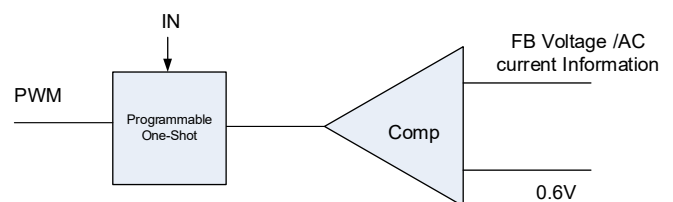

Figure 2. Simplified Control Schematic of AOZ1266AQI
The simplified control schematic is shown in Figure 2. The high-side switch on-time is determined solely by a one-shot whose pulse width can be programmed by one external resistor and is inversely proportional to input voltage (IN). The one-shot is triggered when the internal 0.6V is higher than the combined information of FB voltage and the AC current information of inductor, which is processed and obtained through the sensed lower-side MOSFET current once it turns-on. The added AC current information can help the stability of constant-on time control even with pure ceramic output capacitors, which have very low ESR. The AC current information has no DC offset, which does not cause offset with output load change, which is fundamentally different from other V^2 constant-on time control schemes.